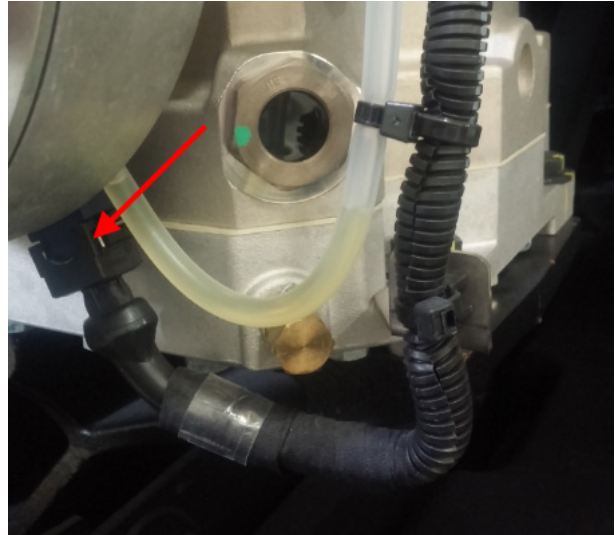

FIGURE 47: CONNECTED COIL
4. Reconnect the coil (5 o'clock position connector) (figure 47).